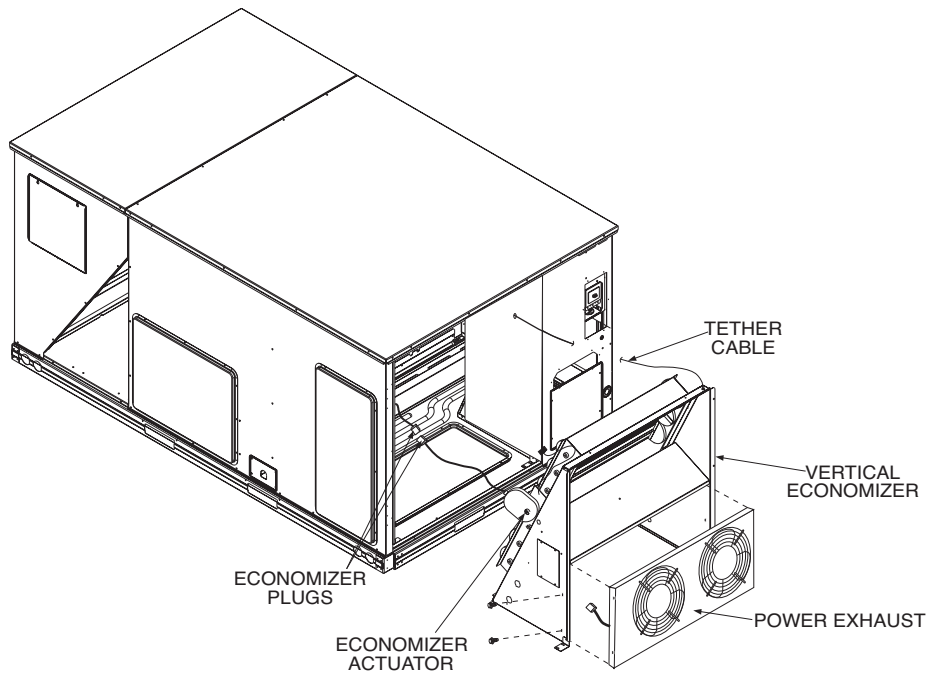

Fig. 1 — Installation with Vertical Economizer
2. At this time, due to the economizer installation, the return air cover should be removed and the economizer should be placed in front of the unit. See Fig. 1 and 2.
5. Secure the power exhaust assembly to the economizer with the 4 screws provided. See Fig. 1 and 2.